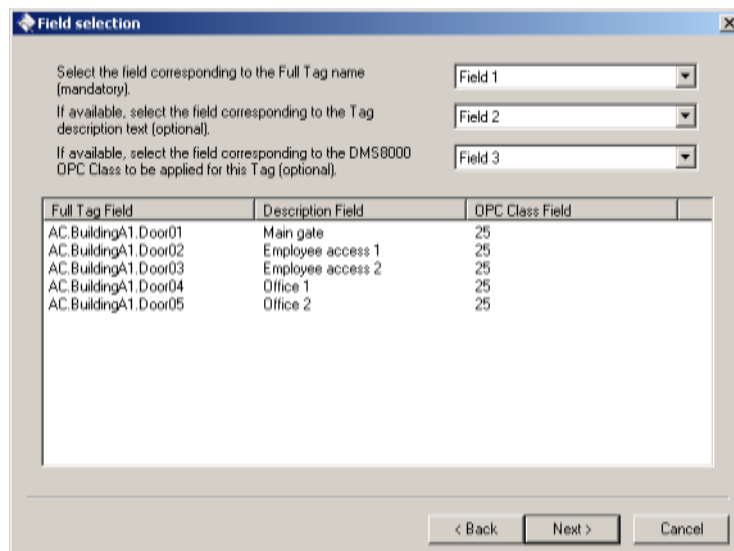

Fig 29 Step 2 of Import Wizard: select columns
- Next, you can identify the columns to import in the file (Fig 29). Three types of information can be imported; namely: